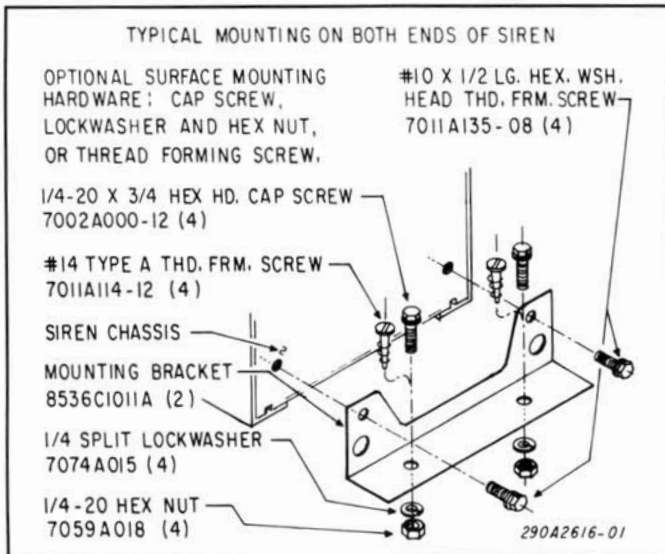

Figure 2. Mounting Bracket Installation.
B. *Siren Chassis Mounting (see figure 2).*
1. Secure both mounting brackets to the chassis with #10 thread-forming hex. head screws (2 for each bracket), as shown in figure 2.